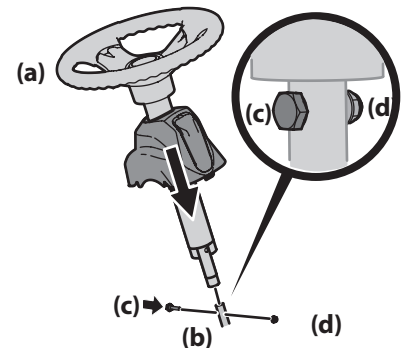

Figure 2-2
2. Remove the shoulder bolt (c) and lock nut (d) from the steering shaft and retain for later steps. See Figure 2-2.
4. Lower the steering wheel assembly (a) onto the lower steering shaft (b) and secure with the shoulder bolt (c) and lock nut (d) previously removed. See Figure 2-2.